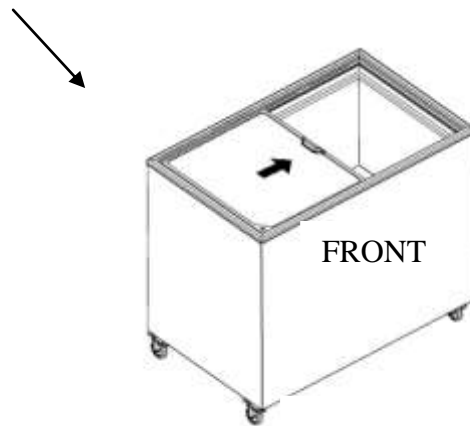

Figure 2
- After placing the glass completely, move it to the right side until the end. (Figure 2)